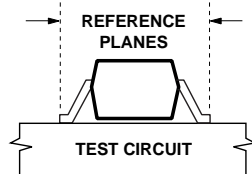

Figure 11. Reference Planes.
- Reference plane per Figure 11 in Applications Information section.
The positions of the reference planes used to measure S-Parameters and to specify  $\Gamma_{opt}$  for the Noise Parameters are shown in Figure 11. As seen in the illustration, the reference planes are located at the extremities of the package leads.